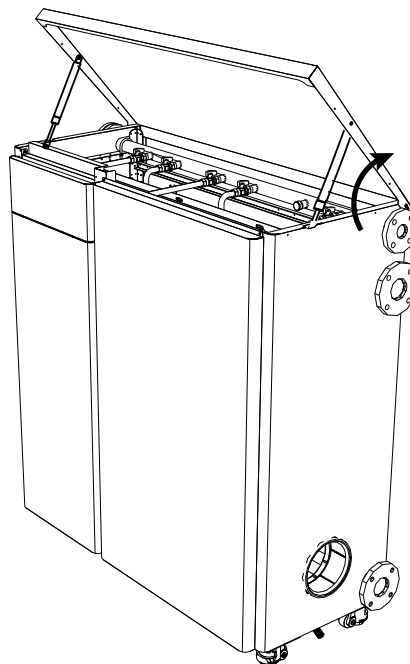

fig. 103
3. Lift the cover (See fig. 103)